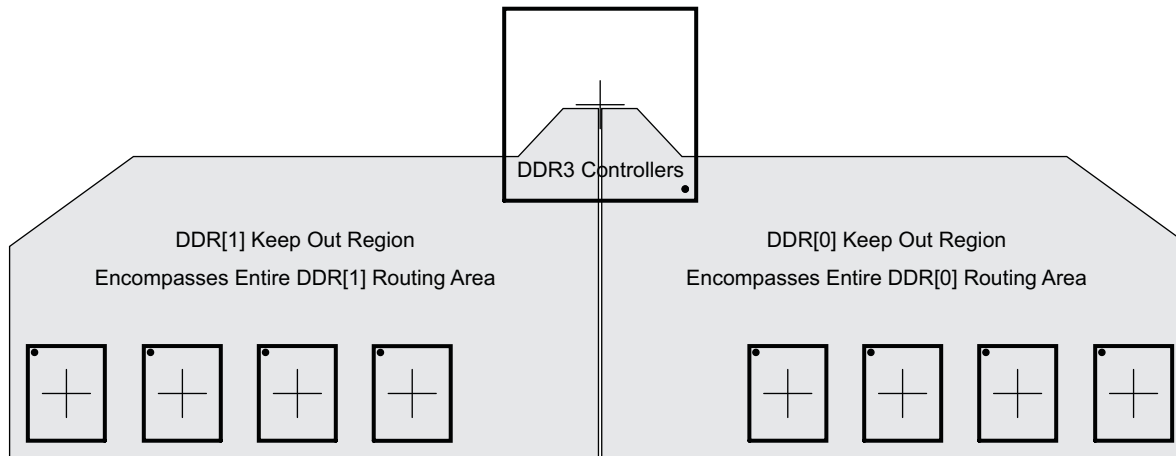

Figure 9-57. DDR3 Keepout Region
- (2) Measurements from center of processor to center of DDR3 device.
- (3) Minimizing X1 and Y improves timing margins.
- (4) w is defined as the signal trace width.
- (5) Non-DDR3 signals allowed within DDR3 keepout region provided they are separated from DDR3 routing layers by a ground plane.
- (6) If a device has more than one DDR controller, the signals from the other controller(s) are considered non-DDR3 and should be separated by this specification.
The region of the PCB used for DDR3 circuitry must be isolated from other signals. The DDR3 keepout region is defined for this purpose and is shown in Figure 9-57. The size of this region varies with the placement and DDR routing. Additional clearances required for the keepout region are shown in Table 9-70. Non-DDR3 signals should not be routed on the DDR signal layers within the DDR3 keepout region. Non-DDR3 signals may be routed in the region, provided they are routed on layers separated from the DDR signal layers by a ground layer. No breaks should be allowed in the reference ground layers in this region. In addition, the 1.5-V DDR3 power plane should cover the entire keepout region. Also note that if there is more than one DDR controller, the signals from each controller must be separated from each other by the specification in Table 9-70, item 5. Each DDR controller should have its own DDR keepout region.
Figure 9-57 is an example of a processor with two DDR controllers. Processors with a single DDR controller will have only one DDR keepout region. Each DDR controller should have its own keepout region.